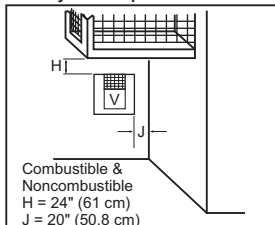

Figure 7 - Minimum Clearances for Termination Cap
- When locating termination cap, it is important to observe the minimum clearances shown in Figure 7, page 8.